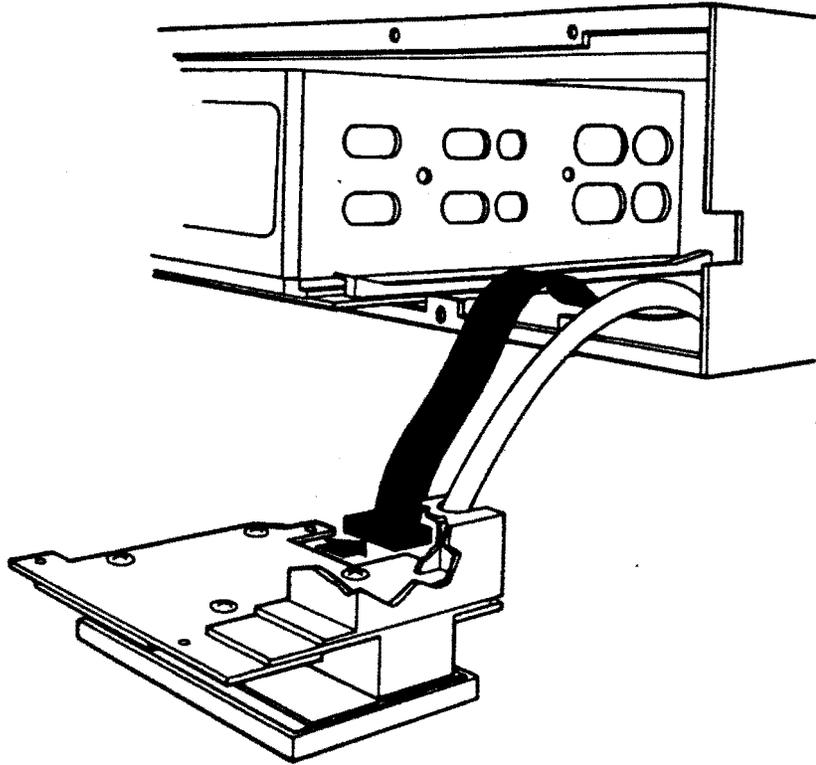

Figure 4-30: Front Control Panel Removal
5. Remove the connector from the control panel printed circuit board (Figure 4-30).